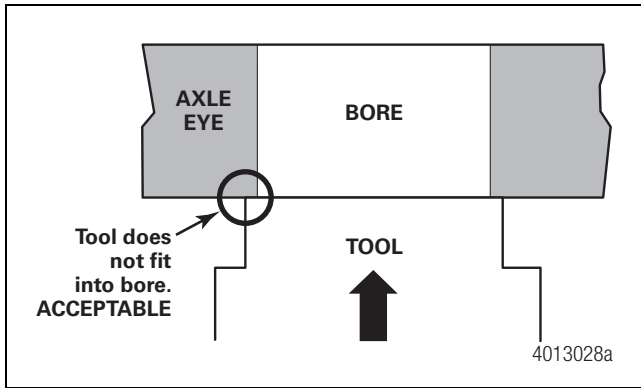

Figure 3
- If the gauge does NOT fit into either of the bores: The axle eye diameter is ACCEPTABLE. Proceed with installation of the FastSet king pin kit. Figure 3.